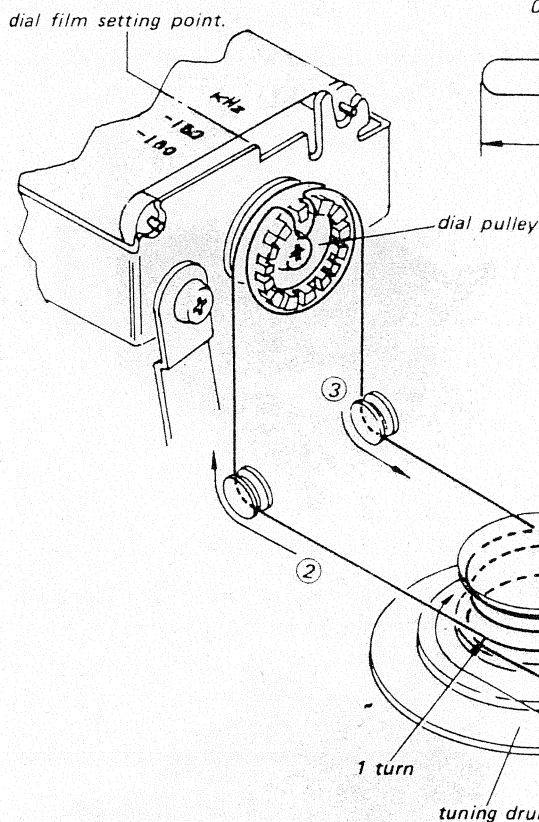

Fig. 2-22 Tuning dial cord restringing
4. Turn the dial pulley so that the area midway between "kHz" and "-150" on the dial scale is aligned with the cut portion of the dial frame as shown in Fig. 2-22.
5. String the dial cord as shown in Fig. 2-22. Perform the stringing steps in the numerical order indicated.